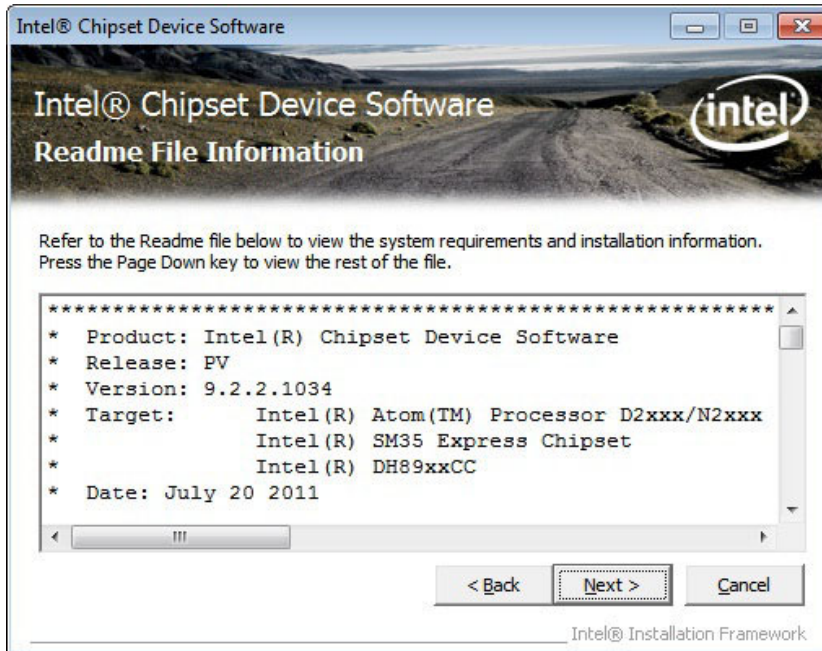

Figure 6-4: Chipset Driver Read Me File
Step 12: The Read Me file in Figure 6-4 appears.